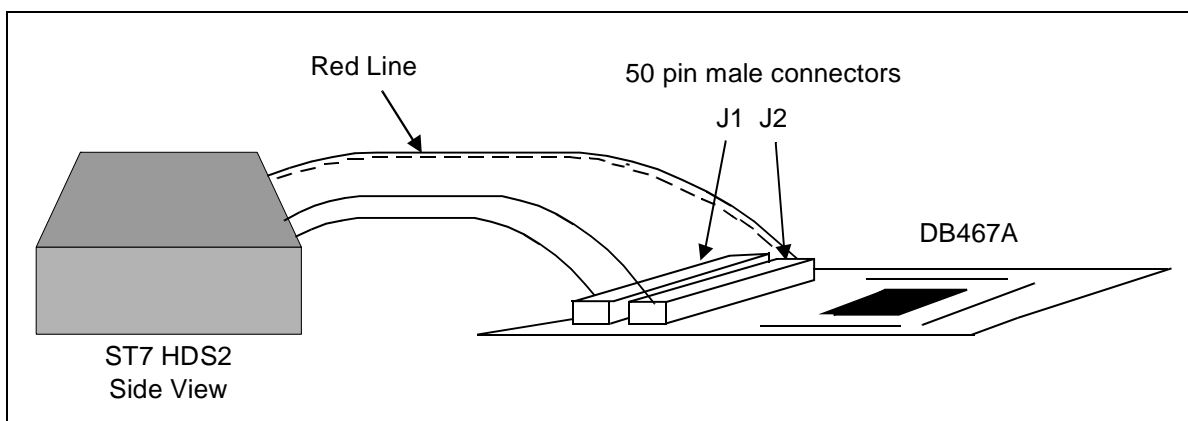

Figure 5: Connecting the emulator to the generic probe
- 2 Plug the two 50-wire flat cables into the J1 and J2 connections on the probe, as described below (refer also to Figure 5):